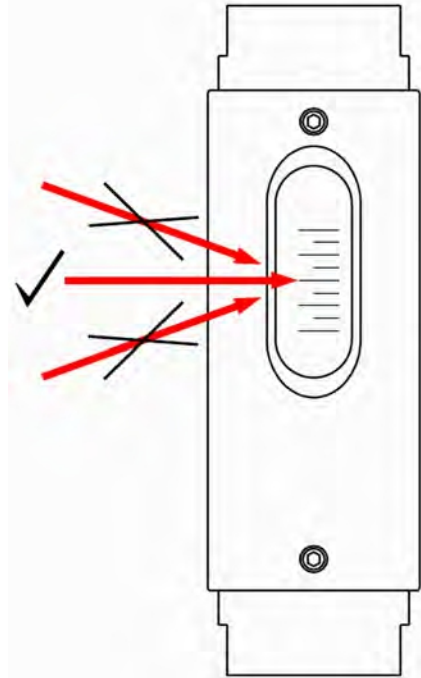

Fig. 33: Reading-off the measuring scale
- 2.** ▶ To obtain greatest reading accuracy, read-off at eye level. (Fig. 33, middle arrow). The read-off value can be falsified by viewing at an angle